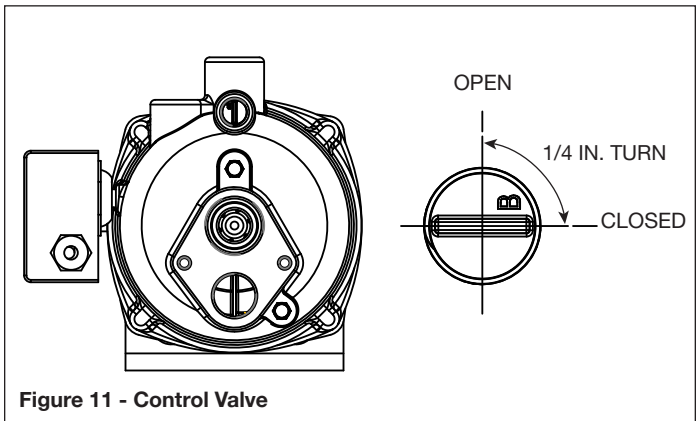

Figure 11 - Control Valve
**NOTICE** When the deep well pump is used with the bolt-on shallow well jet, be sure the control valve slot (Figure 11) is in the vertical (open) position at all times.
4. Close the control valve (Figure 11) and open a nearby faucet.